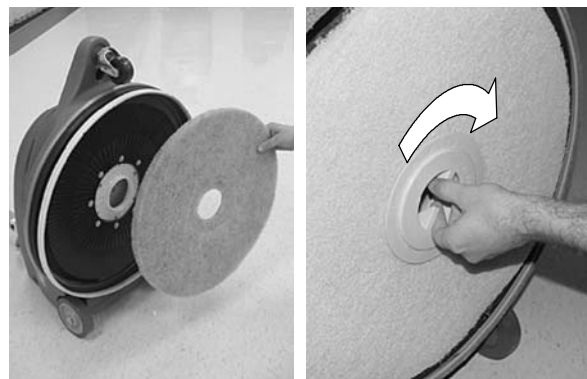

FIG. 2
- 4. Remove the plastic centerlock ring from the pad driver. Position the pad on the pad driver and replace the ring securely by turning it clockwise (Figure 2).